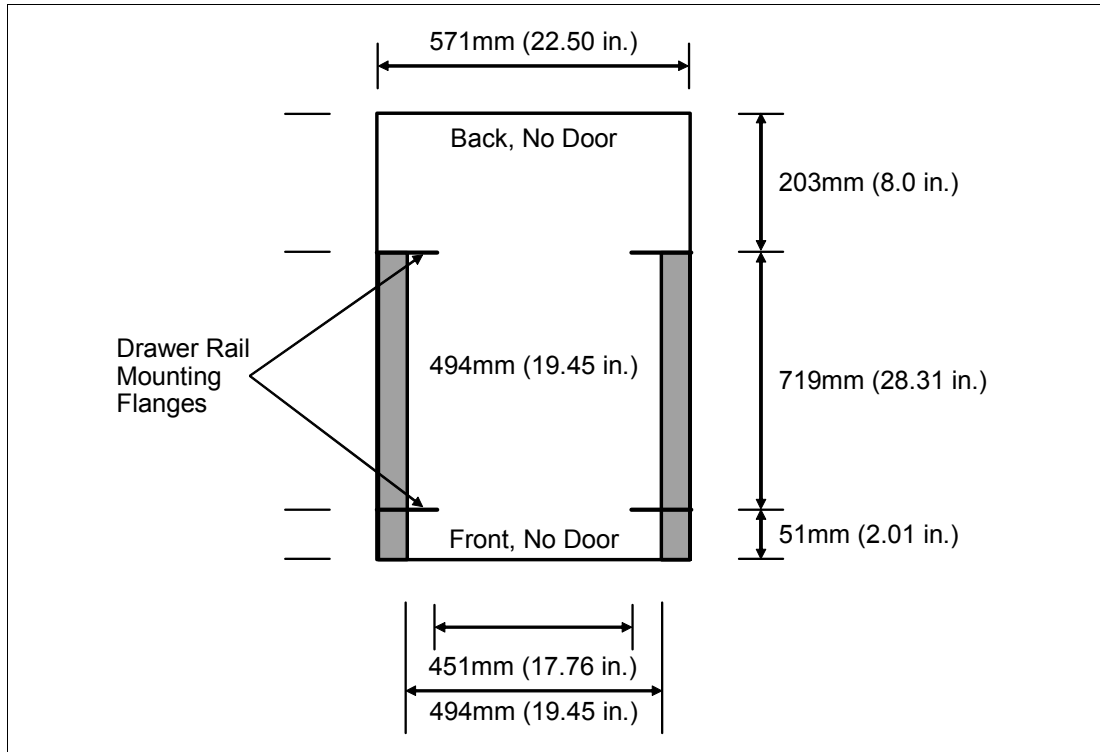

Figure 1-5 Top view of non-IBM rack specification dimensions
- ▶ The front rack opening must be 451 mm wide ± 0.75 mm (17.75 in. ± 0.03 in.), and the rail-mounting holes must be 465 mm ± 0.8 mm (18.3 in. ± 0.03 in.) apart on center (horizontal width between the vertical columns of holes on the two front-mounting flanges and on the two rear-mounting flanges). See Figure 1-5 for a top view showing the specification dimensions.